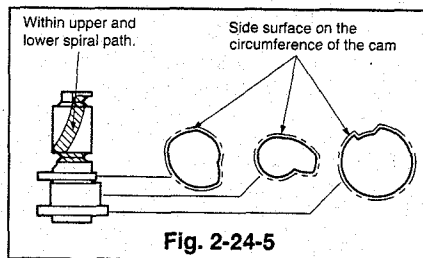
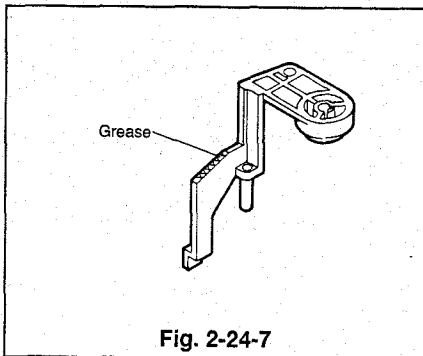

Fig. 2-24-5
Fig. 2-24-7
- ⑤ Apply grease (G) [859D055O50] to the area shown in Fig. 2-24-5 of the new pinch cam.
- ⑥ Turn the takeup guide arm clockwise while inserting the pinch cam into the gear pinch. Install the pinch cam so that it aligns with the triple catch. (Excessive rotation of the takeup guide arm will keep it from returning, since the takeup guide gear is caught on the pinch roller cam.)
- ⑦ Apply the grease (PG-641) [859D055O30] to the new pinch cam cap on the area shown in Fig. 2-24-7.
- ⑧ Install the pinch roller arm assembly and the pinch cam cap.